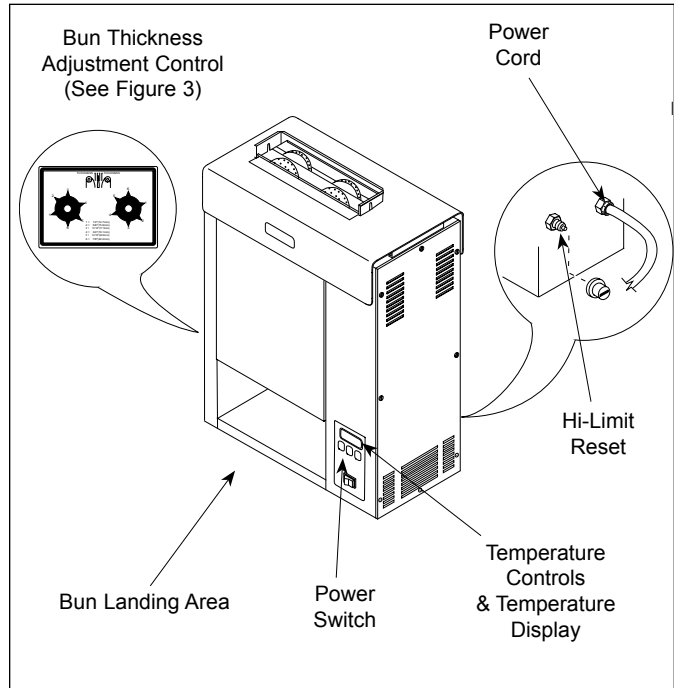

Figure 2. VCT-2000 Toaster
**NOTE: The temperature display (Figure 2) will flash “LO” until the toaster reaches its preset operating temperature. When the toaster approaches the preset temperature of 585°F (307°C), “USE” appears in the temperature display and the unit is ready to toast buns. If “USE” does not appear in the window after approximately 30 minutes, contact your Authorized Service Agency.**
3. Drop Crowns and Heels into the slot (Figure 2).
4. Toasted buns will drop into the Bun Landing Area (Figure 2) in approximately 10 seconds.
A Hi-Limit Control turns off electrical power to the heater and control circuits if the platen overheats. To reset the control, allow 10-15 minutes for the unit to cool, then locate the Reset Button at the rear of the unit. Remove the black protective cap, press the Reset Button, and reinstall the protective cap (Figure 2).